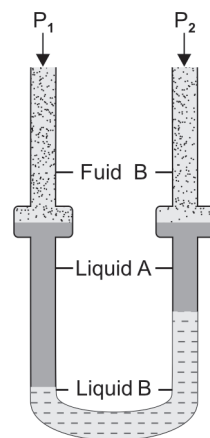

Fig. 1.7: Differential U-tube manometer
a. **U-tube differential manometer:** It is also called two-fluid U-tube manometer. It is also a U-tube manometer as shown in Fig. 1.7 having the two ends, connected to the two systems between which pressure difference is to be measured. It depends on the range of pressure differences, i.e. to be measured, a suitable liquid or combination of liquids can be filled in the two arms of the U-tube. If large pressure differences are to be measured a heavy manometer liquid is filled in the U-tube. And to measure very small pressure difference U-tube with long arms is used and two light liquids are filled in the two arms of the U-tube. It usually contains two immiscible liquids A and B having almost same densities.